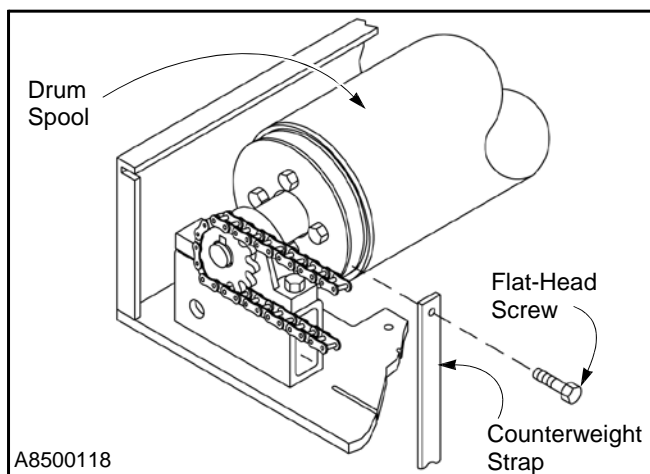

Figure 49
9. Remove and save the screw securing the strap to the drum spool. (See Figure 49)
10. Attach the new strap to the drum spool in the same manner as the old strap using the saved screw. (See Figure 49)